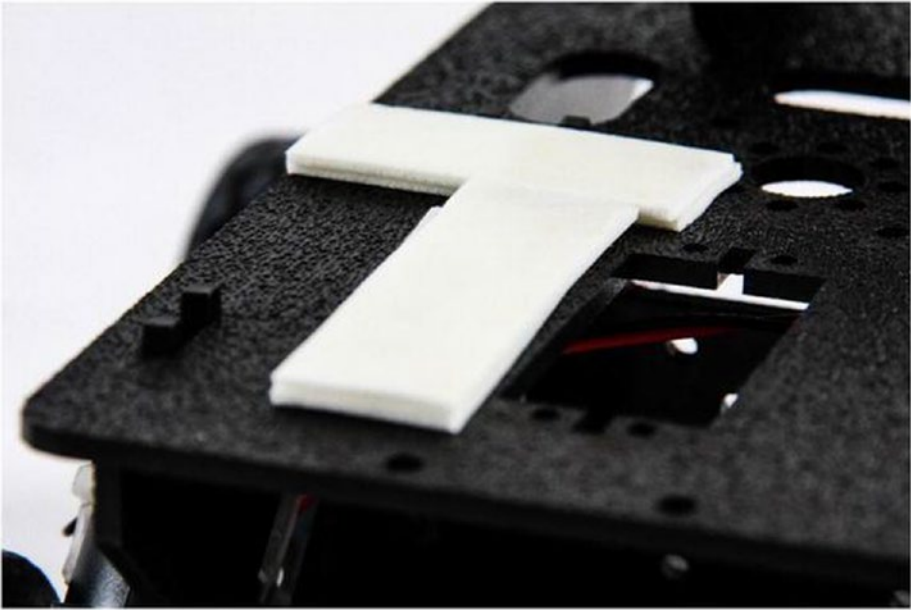

Figure 7-12. *Double layer of mounting tape for the breadboard*
2. Stack two pieces of foam tape on top of each other and place them on the top plate. Use a second set of stacked foam tape to form a T (see Figure 7-12). This adds stability.